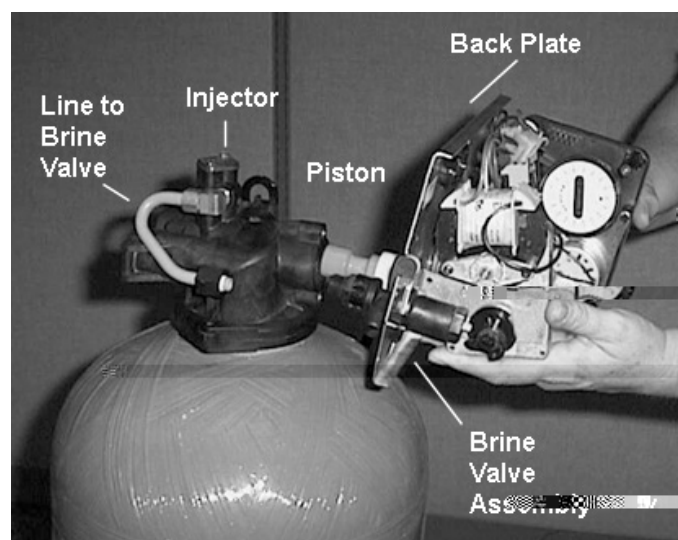

FIGURE 6
1. Remove the cap screw (N) from the back plate (N) and remove the back plate (N) from the valve.
2. Remove the cap screw (N) from the back plate (N) and remove the back plate (N) from the valve.
3. Disconnect the brine line from the brine valve (N) and remove the brine valve (N) from the valve.
4. Remove the cap screw (N) from the back plate (N) and remove the back plate (N) from the valve.
5. Gently pull the back plate (N) away from the valve (N) and remove the back plate (N) from the valve (N). (See Figure 6.)